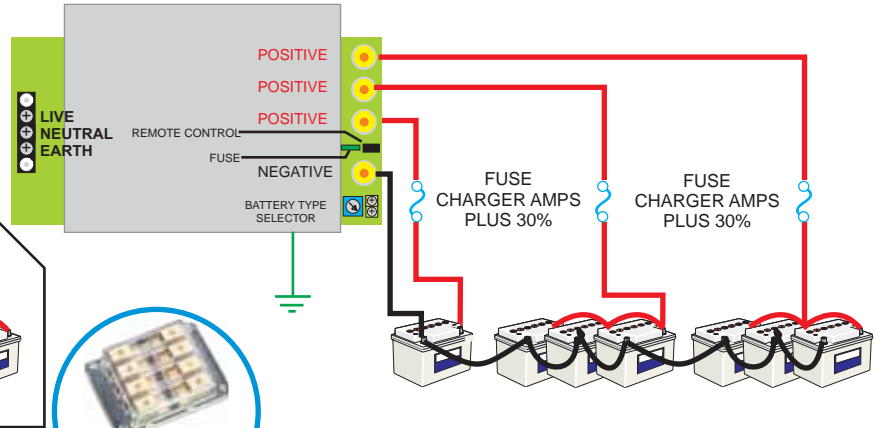

**Fig. 3**
- Connect the cables as indicated in Fig 3. **Always ensure that all the terminals are being used!** Where only one battery is being charged, connect the surplus positive output terminals to the other used output terminal. This ensures correct regulation; failure to do this could reduce the charging performance.